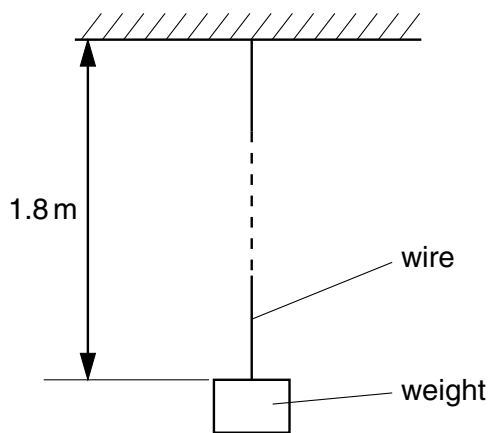

Fig. 9.1
- 6 An aluminium wire of length 1.8 m and area of cross-section $1.7 \times 10^{-6} \text{ m}^2$ has one end fixed to a rigid support. A small weight hangs from the free end, as illustrated in Fig. 9.1.